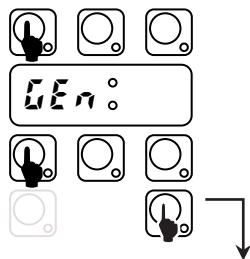

Fig. 17 Enter into User Mode (press for 5 sec)..
- Enter into the USER SETTING mode by pressing and hold down ON/OFF and CYCLE\_1 keys for at least **five seconds** the display shows **DEn** (Figure 17);